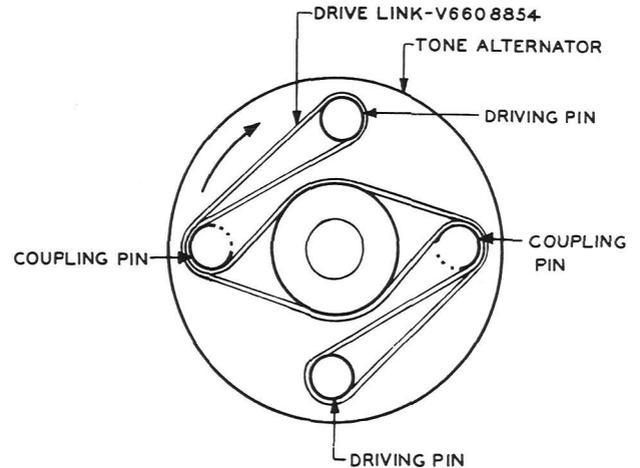

Fig. 3, Arrangement of Drive Link
(1) To replace a drive link which is badly worn or broken, loosen the coupling set screw, and slide the coupling along the shaft toward the interrupter. Then remove the old link. Loop the new link over the upper driving pin. Bring the two sides of the link together and lace over the coupling pin on the left-hand side. Separate the link and pass it on both sides of the rotor hub. Bring the two sides of the link together again and lace over the other coupling pin. Pass the remaining loop over the remaining driving pin. Slide the coupling half back in its original position and tighten the set screw firmly. See Fig. 3.